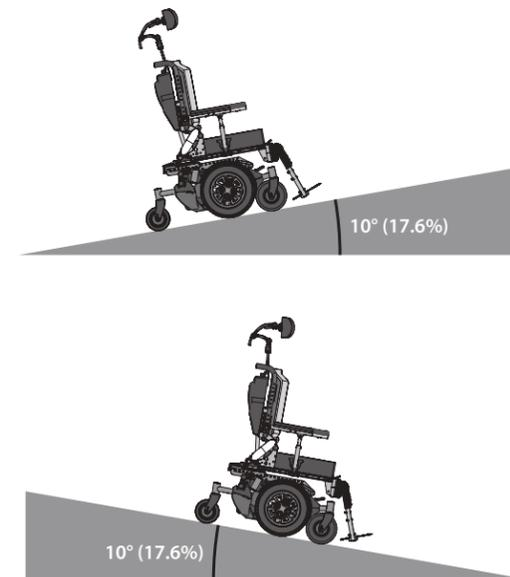

Figure 3. Do not use power wheelchair on slope steeper than 10°.
1. Steep slopes. DO NOT use this power wheelchair on a slope steeper than 10° (17.6%). See Fig.3 below.